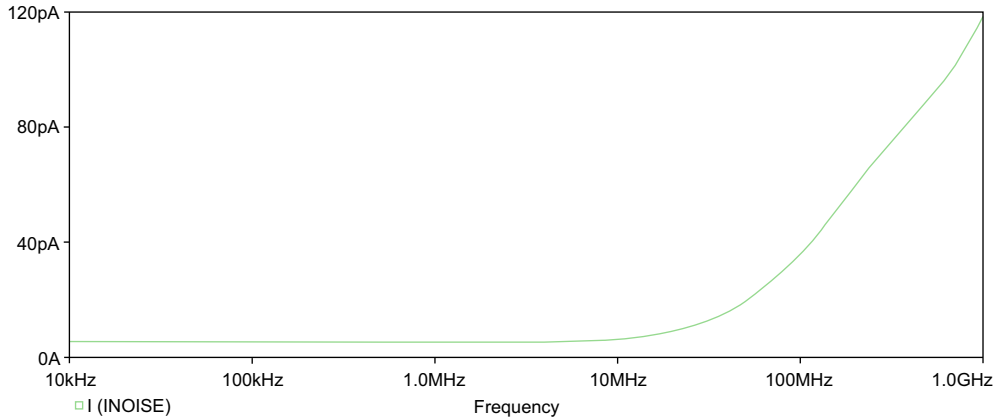

FIGURE 14.9
11. Delete NTOT(ONoise) and add the trace for the equivalent input noise I(Noise). You should see the noise increase with an increase in frequency due to the current gain of the transistor being proportional to frequency (Figure 14.9). As the input source is a current source, the units are $A/\sqrt{\text{Hz}}$.